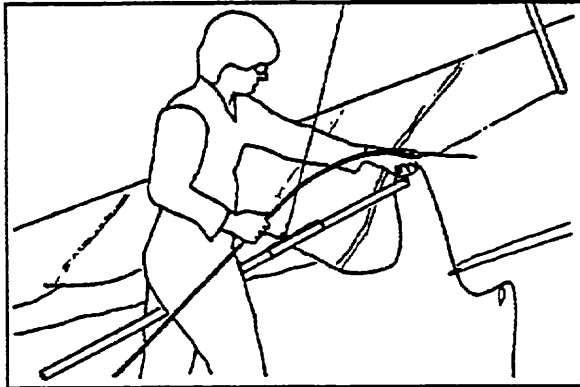

Figure 19
8) Install the cambered top surface battens in the sail, leaving out the shortest three on each side for the present time. Each batten is secured by a double loop of the batten string. (Figure 19, 20) Note: Insert the cambered battens carefully, so as to prolong the life of your batten pockets. Never insert or remove battens with the crossbar tensioned, or with a heavy wind load on the sail, or in any condition that causes the battens to slide with great resistance in the pockets.